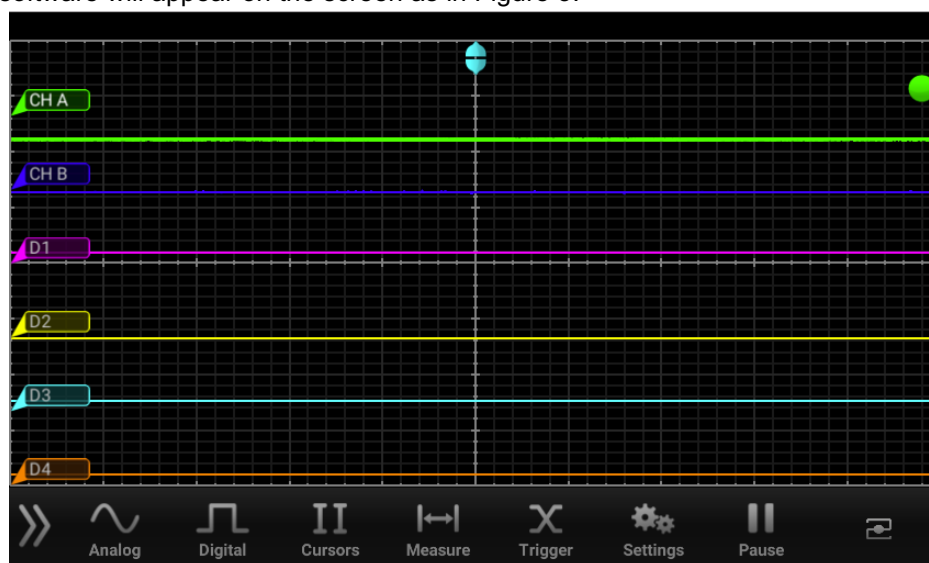

Figure 3. Default iMSO software display.
2. iMSO software will appear on the screen as in Figure 3.
Figure 3. Use the grabbers on the digital logic harness to connect to the test cable from your signal generator. These grabbers are built to connect to pins on integrated circuits and other small circuit board wires.